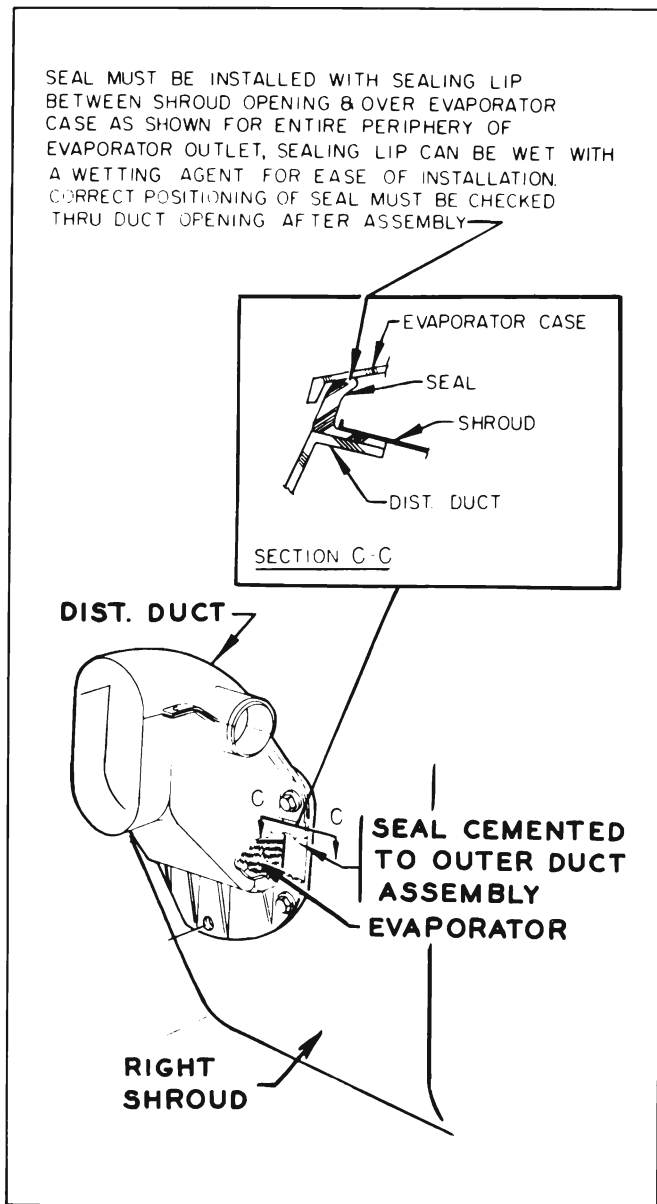

Figure 11-70—Air Distribution Outer Duct
3. Air Distribution Outer Duct. Figure 11-70 shows correct installation of the air distribution outer duct.